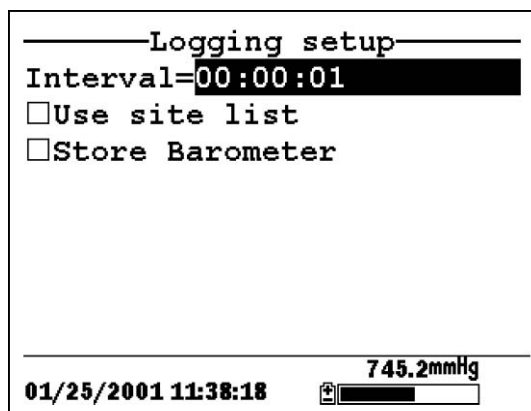

Figure 9.2 Setup Screen
2. Use the arrow keys to highlight the **Store barometer** selection. See Figure 9.2 Logging Setup Screen.